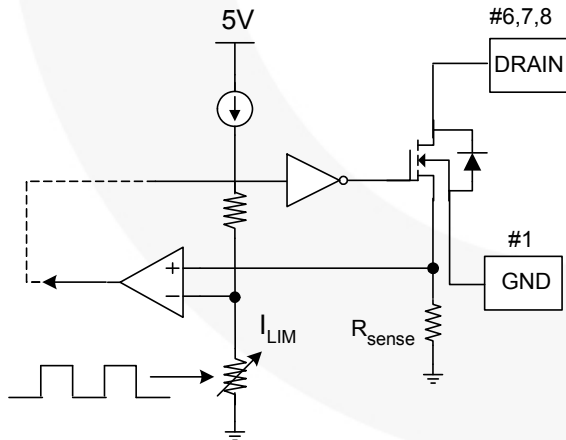

**Figure 15. Overload Protection (OLP)**
**4.1 Overload Protection (OLP):** Overload is defined as the load current exceeding a pre-set level due to an unexpected event. In this situation, the protection circuit should be activated to protect the SMPS. However, even when the SMPS is operating normally, the Overload Protection (OLP) circuit can be activated during the load transition. To avoid this undesired operation, the OLP circuit is designed to be activated after a specified time to determine whether it is a transient situation or a true overload situation. In conjunction with the Ipk current limit pin (if used), the Current Mode feedback path would limit the current in the SenseFET when the maximum PWM duty cycle is attained. If the output consumes more than this maximum power, the output voltage (VO) decreases below its nominal voltage. This reduces the current through the optocoupler LED, which also reduces the optocoupler transistor current, thus increasing the feedback voltage (VFB). If VFB exceeds 3V, the feedback input diode is blocked and the 5μA current source (IDELAY) starts to slowly charge Cfb up to VCC. In this condition, VFB increases until it reaches 6V, when the switching operation is terminated (as shown in Figure 15). The shutdown delay is the time required to charge Cfb from 3V to 6V with 5μA current source.